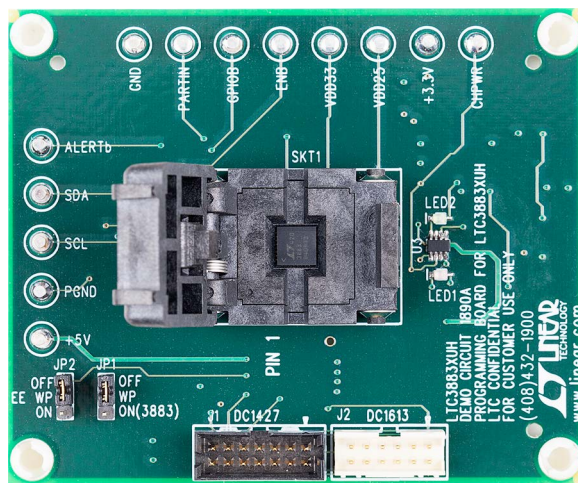

Figure 2. Open Shell. Verify IC Installed
2. Open the lid of the socket SKT1. Verify there is an IC inside. See Figure 2.